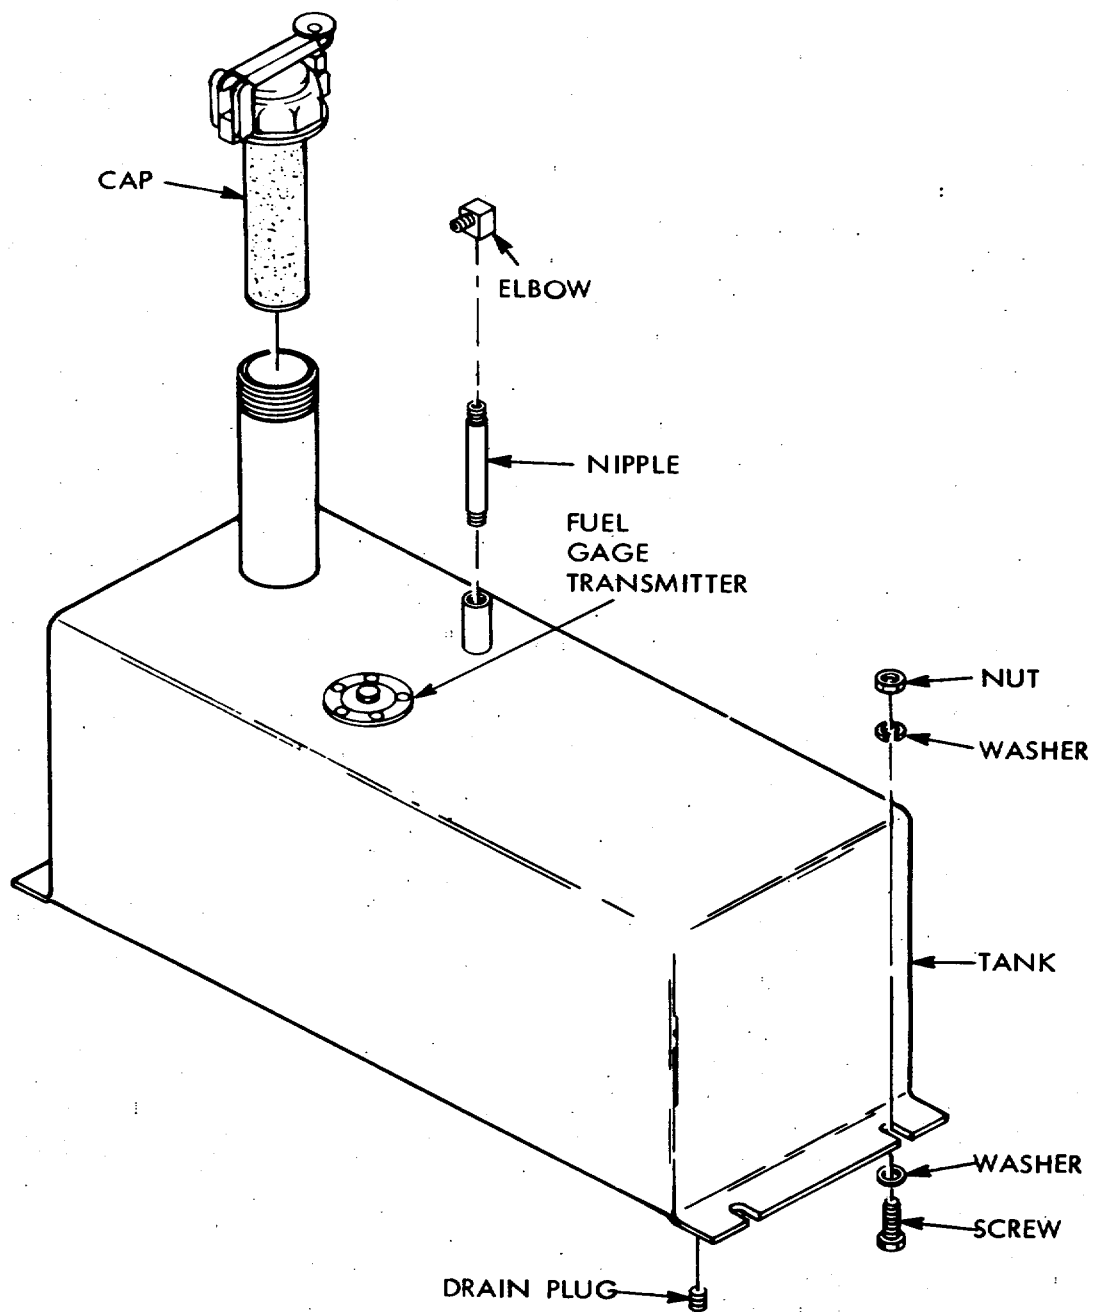

Figure 6-26. Fuel Tank Removal
(1) Remove drain plug (Figure 6-26) and drain all fuel into a container. Observe safety precautions for handling gasoline.
(2) Unscrew cap completely from tank fill neck.
(3) Disconnect pipe nipple from elbow.
(4) Hoist truck to obtain access, remove four nuts, eight washers and four screws, and remove tank from below.